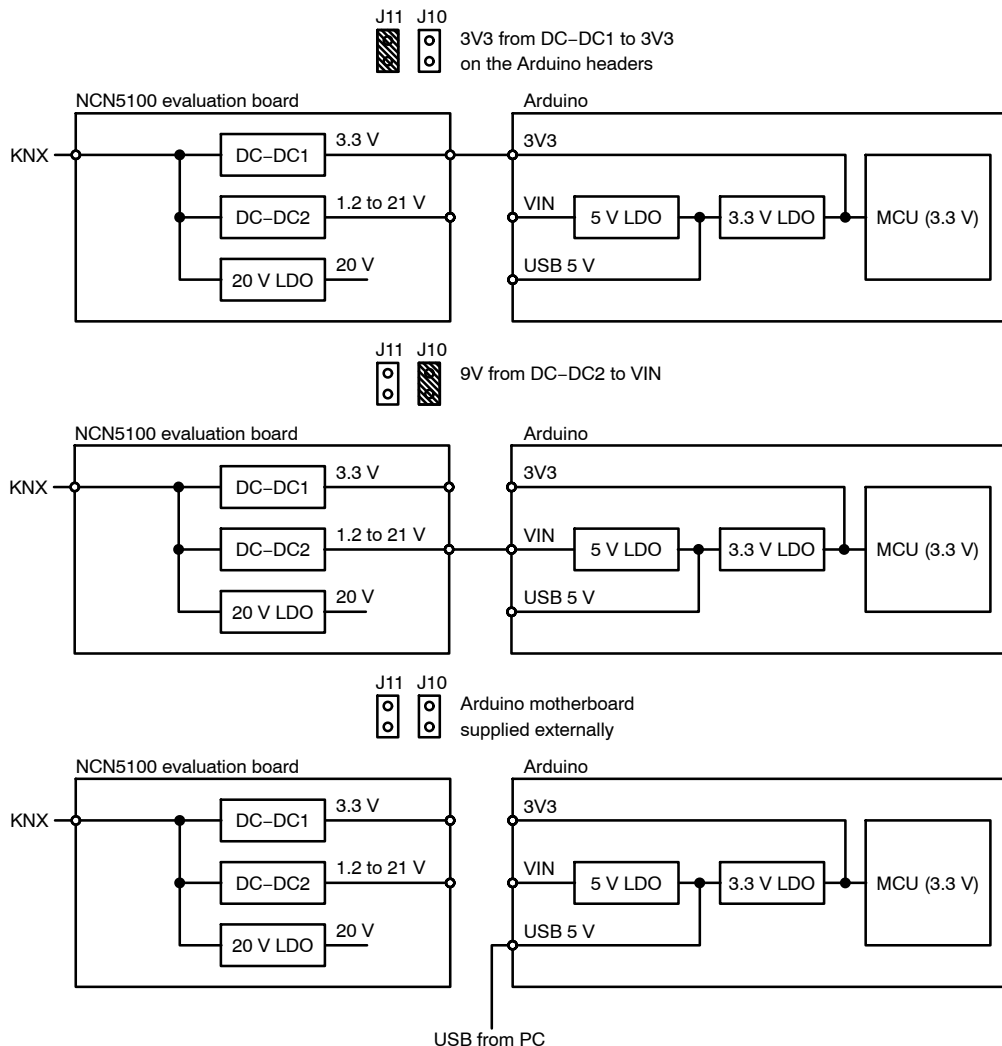

Figure 6. Jumper Settings for the Three Possible Supply Configurations
- Most modern microcontroller development boards can be supplied through the 3V3-pin, this eliminates the need for additional LDO's, and lowers the overall power consumption. On the shield, there is always a 3.3 V supply present, which is also used to supply the KNX transceiver. This supply voltage can be routed to the 3V3-pin on the Arduino headers by shorting J11 (Figure 6).
- Arduino-compatible development boards typically accept a supply voltage of 7 V to 12 V, either through the on-board DC-jack (if present) or the VIN-pin on the headers. The shield can supply the microcontroller through the VIN-pin. When J10 is shorted (see Figure 6), the 9 V generated by DC-DC2 is routed to the VIN-pin. In this configuration, the whole system is supplied through the KNX-bus and no additional power supplies are required.
- The microcontroller development board may be supplied through an external supply. This occurs when debugging the board through USB with the KNX-connector disconnected. In this case remove both J10 and J11 (Figure 6).
The transceiver's 20 V LDO and DC-DC2 converter can be used to power additional circuitry, e.g. a relay. When additional shields are stacked, which take their power from the VIN-pin, these can be powered by connecting DC-DC2 to the VIN-pin. This can easily be done by placing J10 as shown in Figure 6.